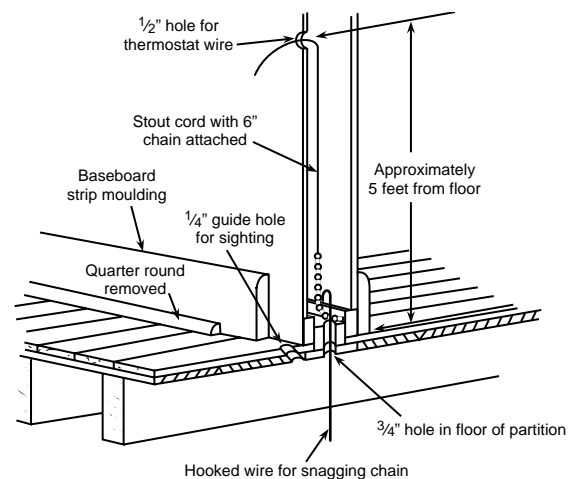

Figure 1. Routing thermostat wires
3. Probe for obstructions in partition before drilling 1/2" hole in wall at selected location. Take up quarter round and drill a small guide hole for sighting (see fig. 1). From basement, drill 3/4" hole in partition floor next to guide hole. In houses without basements, drill 1/2" hole through ceiling and into partition from above (see fig. 1).